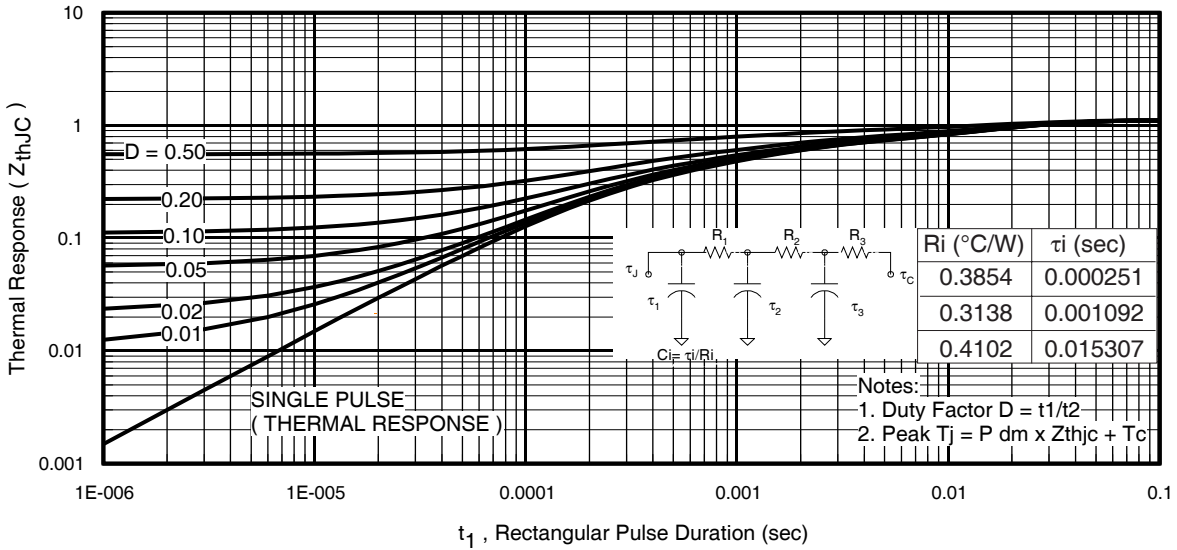
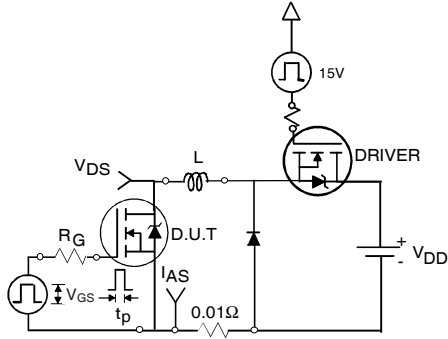

Fig 11. Maximum Effective Transient Thermal Impedance, Junction-to-Case
Fig 12a. Unclamped Inductive Test Circuit
3. Equation below based on circuit and waveforms shown in Figures 12a, 12b.
$Z_{thJC}(D, t_{av})$ = Transient thermal resistance, see figure 11)
- ① Repetitive rating; pulse width limited by max. junction temperature. (See fig. 11).
- ② Limited by T_{Jmax} , starting $T_J = 25^\circ C$, $L = 0.13mH$, $R_G = 25\Omega$, $I_{AS} = 42A$, $V_{GS} = 10V$. Part not recommended for use above this value.
- ③ Pulse width $\leq 1.0ms$; duty cycle $\leq 2\%$.
- ④ C_{OSS} eff. is a fixed capacitance that gives the same charging time as C_{OSS} while V_{DS} is rising from 0 to 80% V_{DSS} .
- ⑤ Limited by T_{Jmax} , see Fig.12a, 12b, 15, 16 for typical repetitive avalanche performance.
- ⑥ This value determined from sample failure population. 100% tested to this value in production.
- ⑦ When mounted on 1" square PCB (FR-4 or G-10 Material). For recommended footprint and soldering techniques refer to application note #AN-994
- ⑧ R_θ is measured at T_J approximately $90^\circ C$